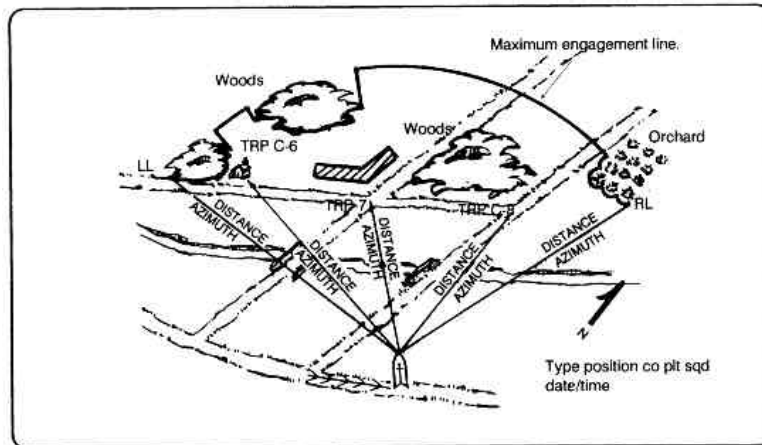

Figure 3-16. Expedient range card.
(2) Field-Expedient Range Card. In combat, a standard range card may not be available. The gunner may then draw a range card on anything available. Preparation of the expedient range card (Figure 3-16) follows the same procedures as for any range card, but the weapon symbol must be used to indicate the location of the weapon system.